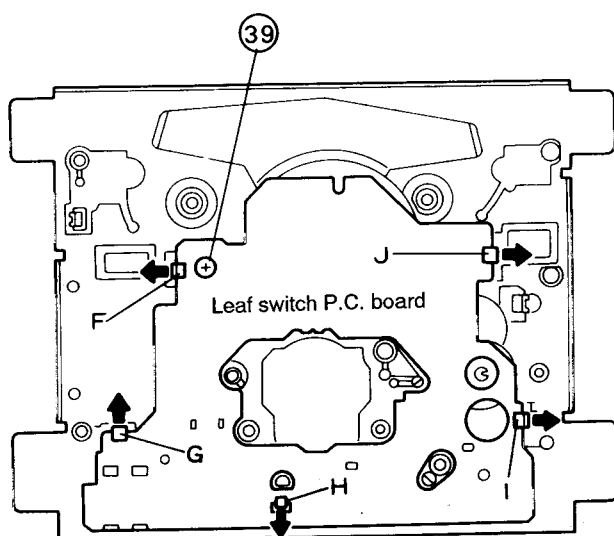

Fig. 7-32
2. To dismount the reel motor, remove the two soldering D from the back side (Refer to Fig. 7-32).